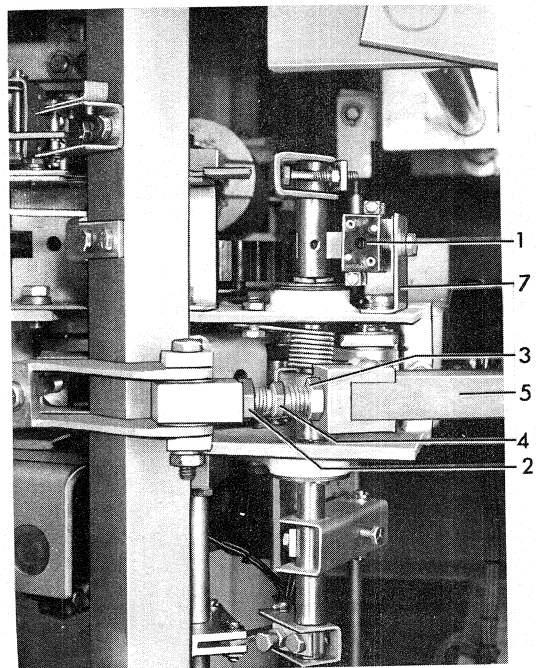

Figure 23 (8039377) Operating Rod
To remove the tripping latch switch (1) Fig. 23 remove the mounting screws and disconnect the wires. Reassemble in the reverse order and check the switch adjustment as explained under ADJUSTMENTS.